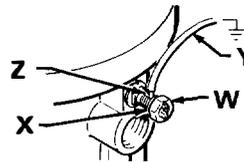

Fig 1
1. *Pump*: use ground wire and clamp as shown in Fig 1.
To ground the pump, loosen the grounding lug locknut (W) and washer (X). Insert one end of a 12 ga (1.5 mm2) minimum ground wire (Y) into the slot in the lug (Z) and tighten the locknut securely. See Fig 1. Connect the other end of the wire to a true earth ground. Refer to page 10 to order a ground wire and clamp.